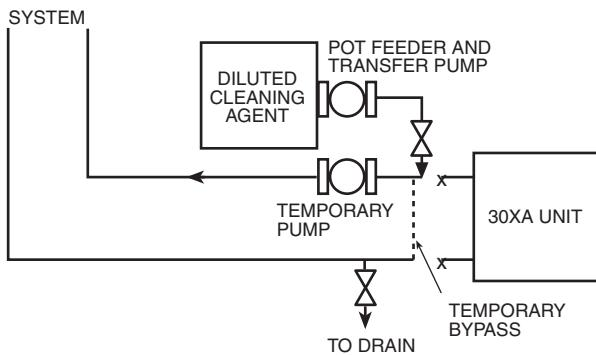

Fig. 30 — Typical Set Up for Cleaning Process
1. Install a temporary bypass around the chiller to avoid circulating dirty water and particulates into the chiller during the flush. Use a temporary circulating pump during the cleaning process. Also, be sure that there is capability to fully drain the system after cleaning. See Fig. 30.